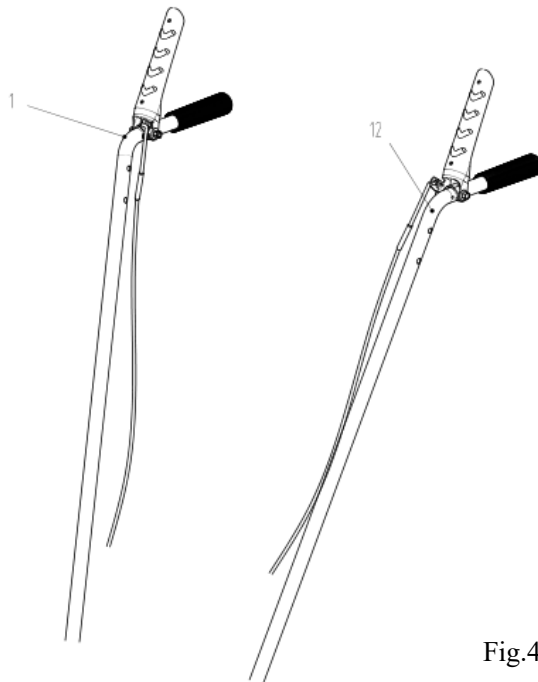

Fig.4
3.3 Installation of hinge and walking cable: As shown in Figure 4, thread the Z-shaped end of the walking cable through the hole position of the right walking handle (1 #) as shown in Figure a; Thread the Z-shaped end of the hinge cable through the hole position of the left hinge handle (12 #), as shown in Figure b;